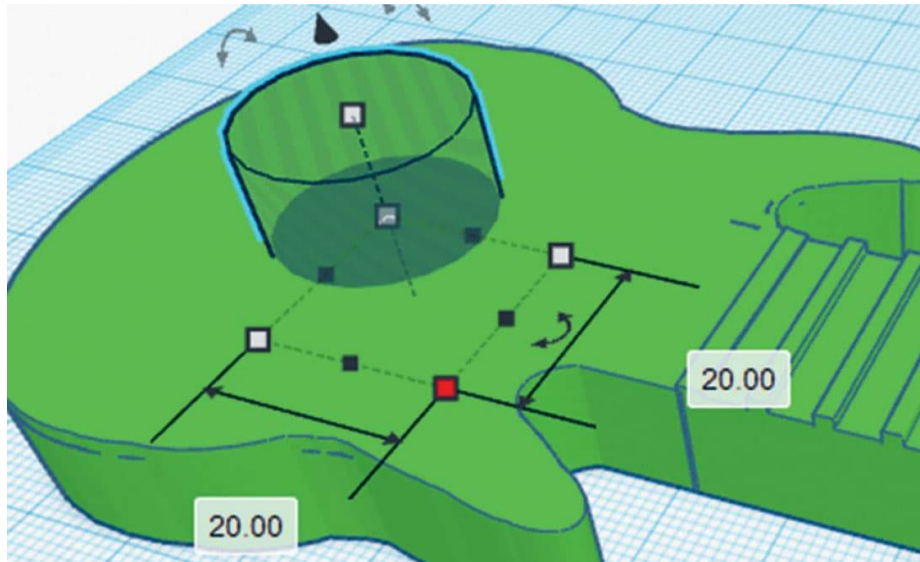

FIG. 5: Make the sound hole in the guitar body.
3. The sound hole is created by making a cylindrical hole in the center of the top face of the guitar body. The hole must be 2 mm from the bottom surface of the guitar. See fig. 5 for sound hole dimensions and location.